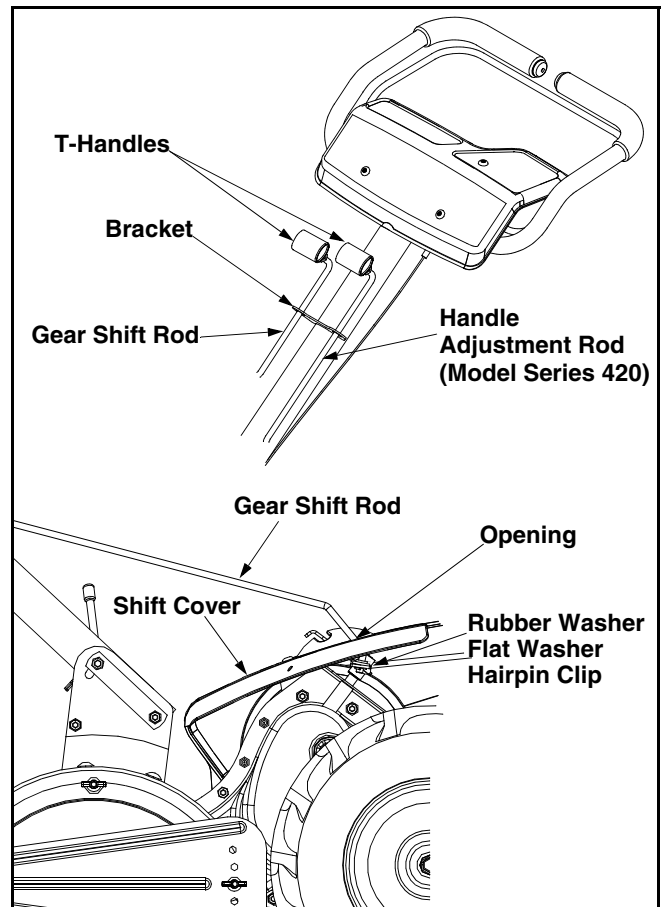

Figure 5
- Remove the T-handle, hairpin clip, flat washer and rubber washer from the end of the gear shift rod. Slide the rod up through the right side of bracket on the front of the handle assembly. See Figure 5.
- Insert the end of the gear shift rod through the opening in the top of the shift cover and into the shift bracket. Secure with rubber washer first, flat washer, and then hairpin clip. See Figure 5.